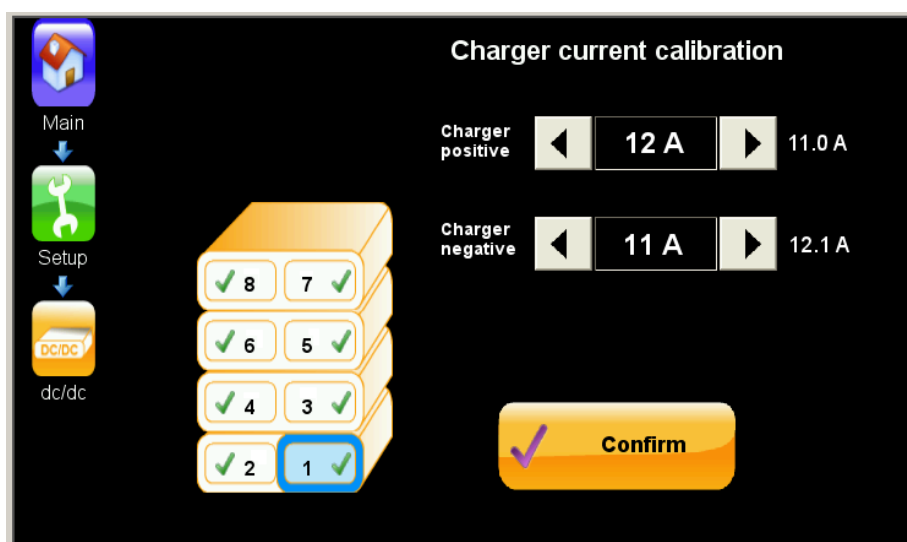

Figure 28: Charger current calibration screen
7. Switch off the dc block you just calibrated and switch on the next-highest block (see the sequence numbers in Figure 28).